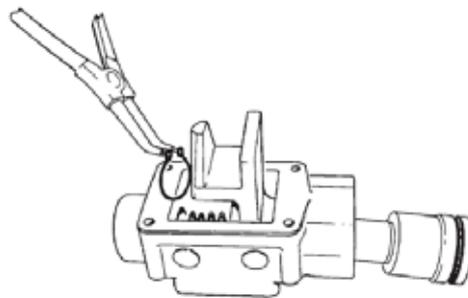

Figure 13 Installing Circlip
- Insert the piston partially into the cylinder bore, then position the selector fork and circlip onto the piston (Figure 13).